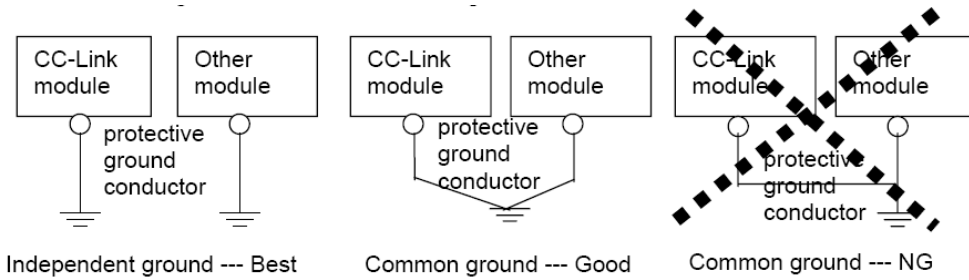

Figure 3.5 Shield line with ground
- If not use ground independently, use common ground according to the Figure 3.5